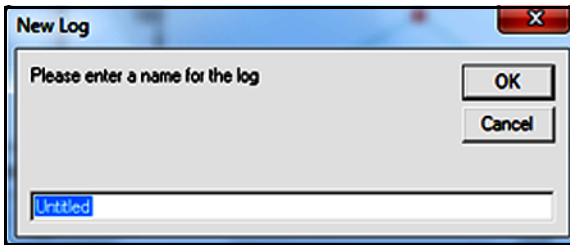

Figure 56: The Save As Dialog Box
- Click the “*Save As*” option to save the graphed data as a log file. When the dialog box in *Figure 56* below opens, enter a name for the log file and click the [OK] button to save the file as: